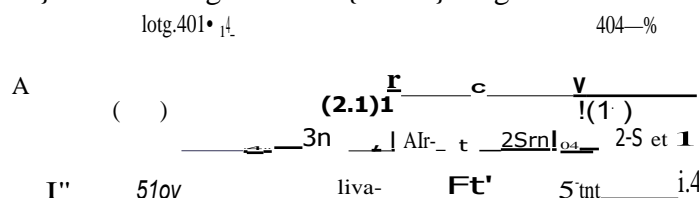

Fig.Q3
- 3 Analyse the continuous beam loaded as shown in Fig.Q3 by the moment distribution method: Draw Shear Force {SF} and Bending Moment {BMD} diagrams. (20 Marks)